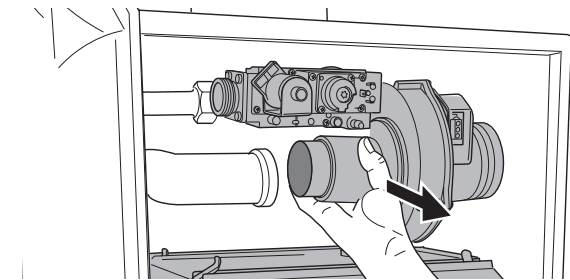

Fig. 83 Removing the burner cover with the gas/air unit
- Remove the burner cover with the gas/air unit (fig. 83).